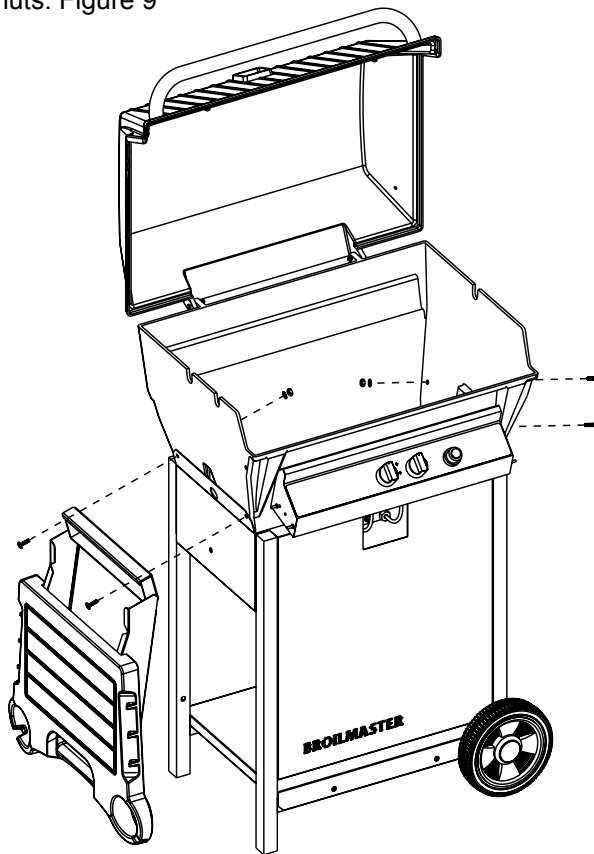

FIGURE 9
Place grill head onto garden cart. Attach side shelf and grill head to the two frame assemblies with four (4) 1/4-20 x 3/4 Phillips screws, 1/4 x 5/8 lock washers and 1/4-20 hex nuts. Figure 9